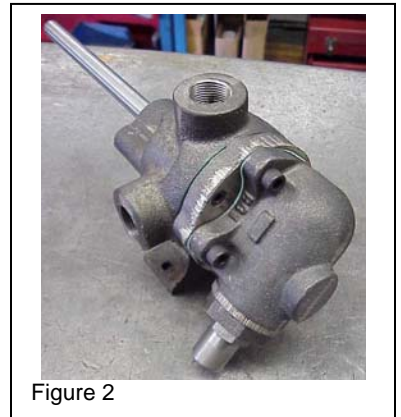
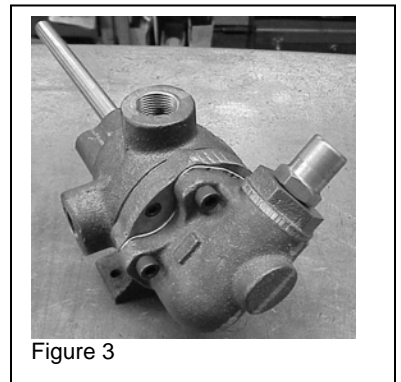

Figure 2
Figure 3
4. Relief valve bonnet must *always* point towards suction side of pump. If pump rotation is reversed, remove pressure relief valve and turn end for end. Figures 2 and 3 show the 2 possible configurations, Figure 2 has side suction and top discharge. Figure 3 has top suction and side discharge. The shaft turns in the opposite direction on the second pump.